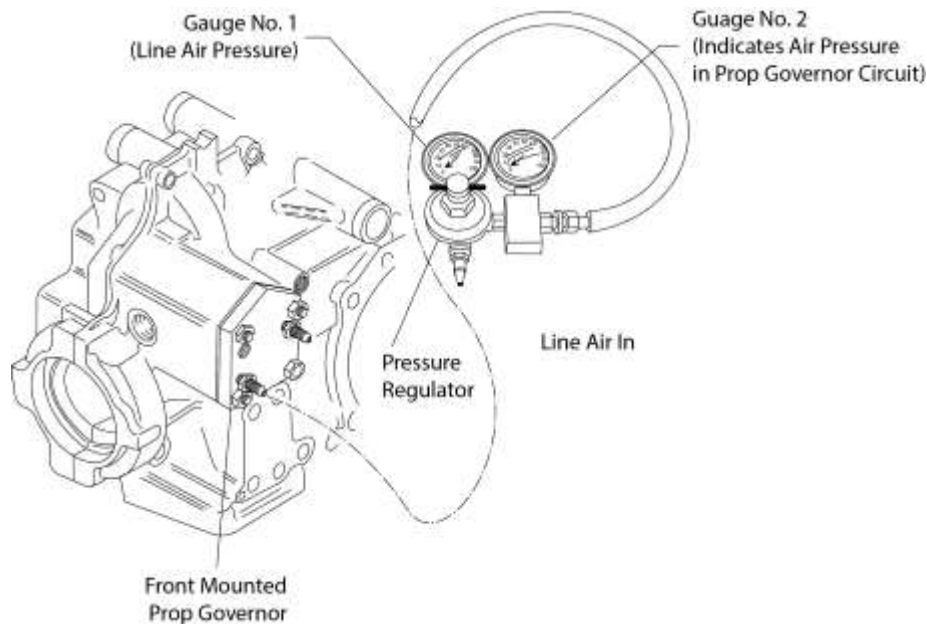

Figure 103
- (6) Apply shop air to the differential pressure regulator and adjust it to 40 psi (276 kPa) on the Gauge No. 1 (Figure 103). With the engine at operating temperature, the pressure reading on the Gauge No. 2 must read 6 to 35 psi (41 to 241 kPa), if the system is operating correctly.